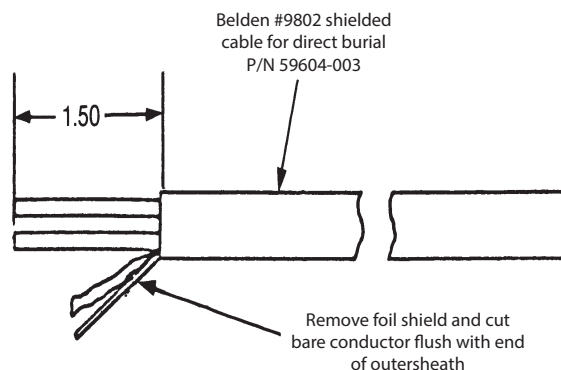

Figure 4: Cable stripping detail
2. Strip approximately 1-1/2 inch of outer insulation sheath from the cable using the 59989-001 Coax Stripping Tool. Use caution removing the outer sheath so that the inner signal wire insulation is not damaged. See Figure 4.